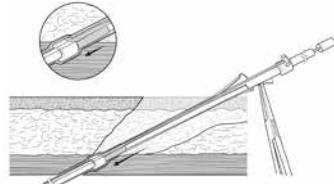

Figure 28
11. Advance catheter and Cuff Implantor Tool simultaneously 1.0 cm to both dilate the rectus muscle and advance the cuff into the rectus muscle while holding the Luke Guide stationary with the hemostat (Figure 28).